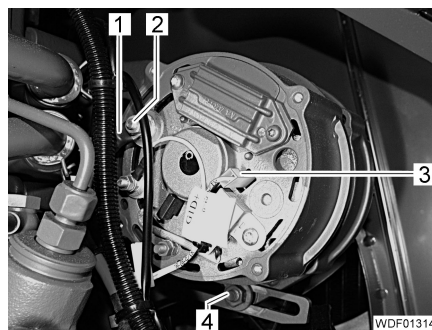

Fig. 466 Generator connections
- Unscrew the 2 nuts (Fig. 466,2) and remove the 2 cables (Fig. 466,1).
- Remove the plug (Fig. 466,3).
- Undo the nut (Fig. 466,4).
- Unscrew the nut (Fig. 466,4).
- Screw the nut (Fig. 466,4) with the washer onto the screw.